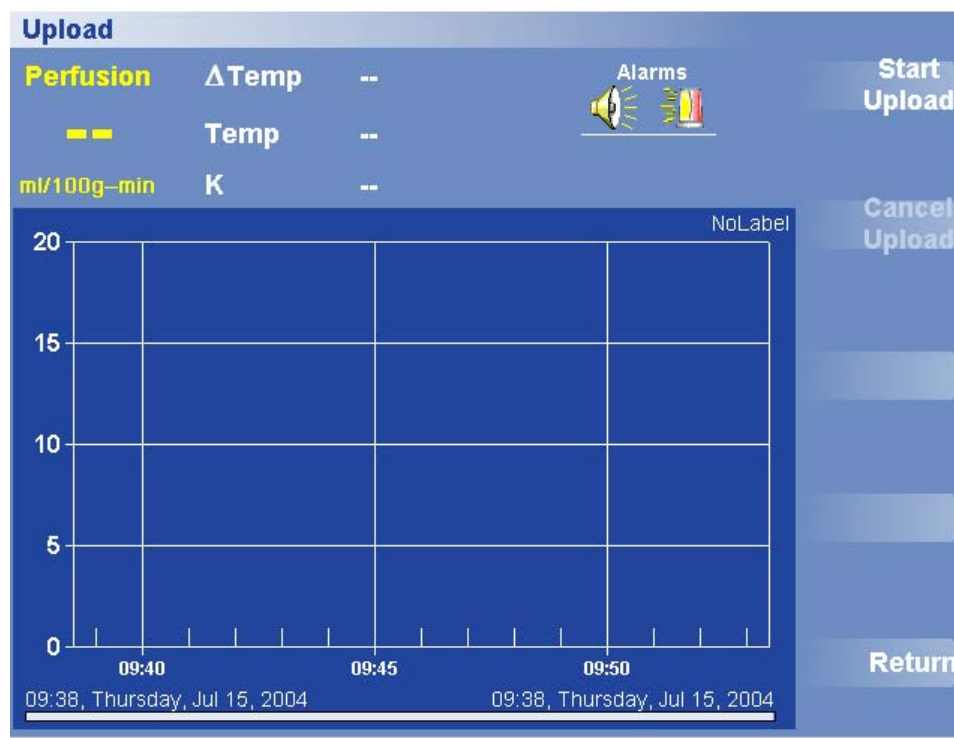

Figure 18. Start Upload Stored Data
4. Press Stored Data > Upload Data. The Start Upload Stored Data menu appears (Figure 18).